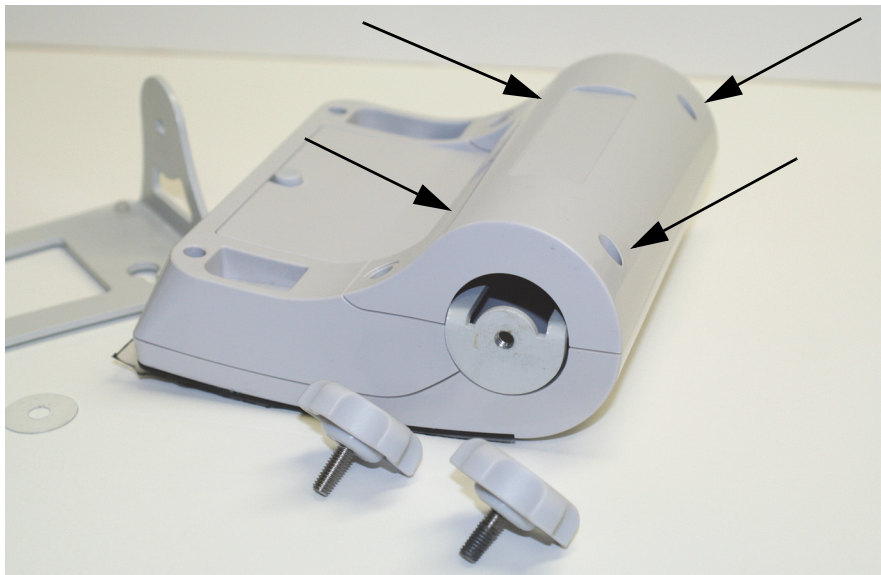

Figure 4-2. Remove Back Cover of Indicator
2. Remove the four back retaining screws as shown in Figure 4-2 and remove the back cover to the indicator.